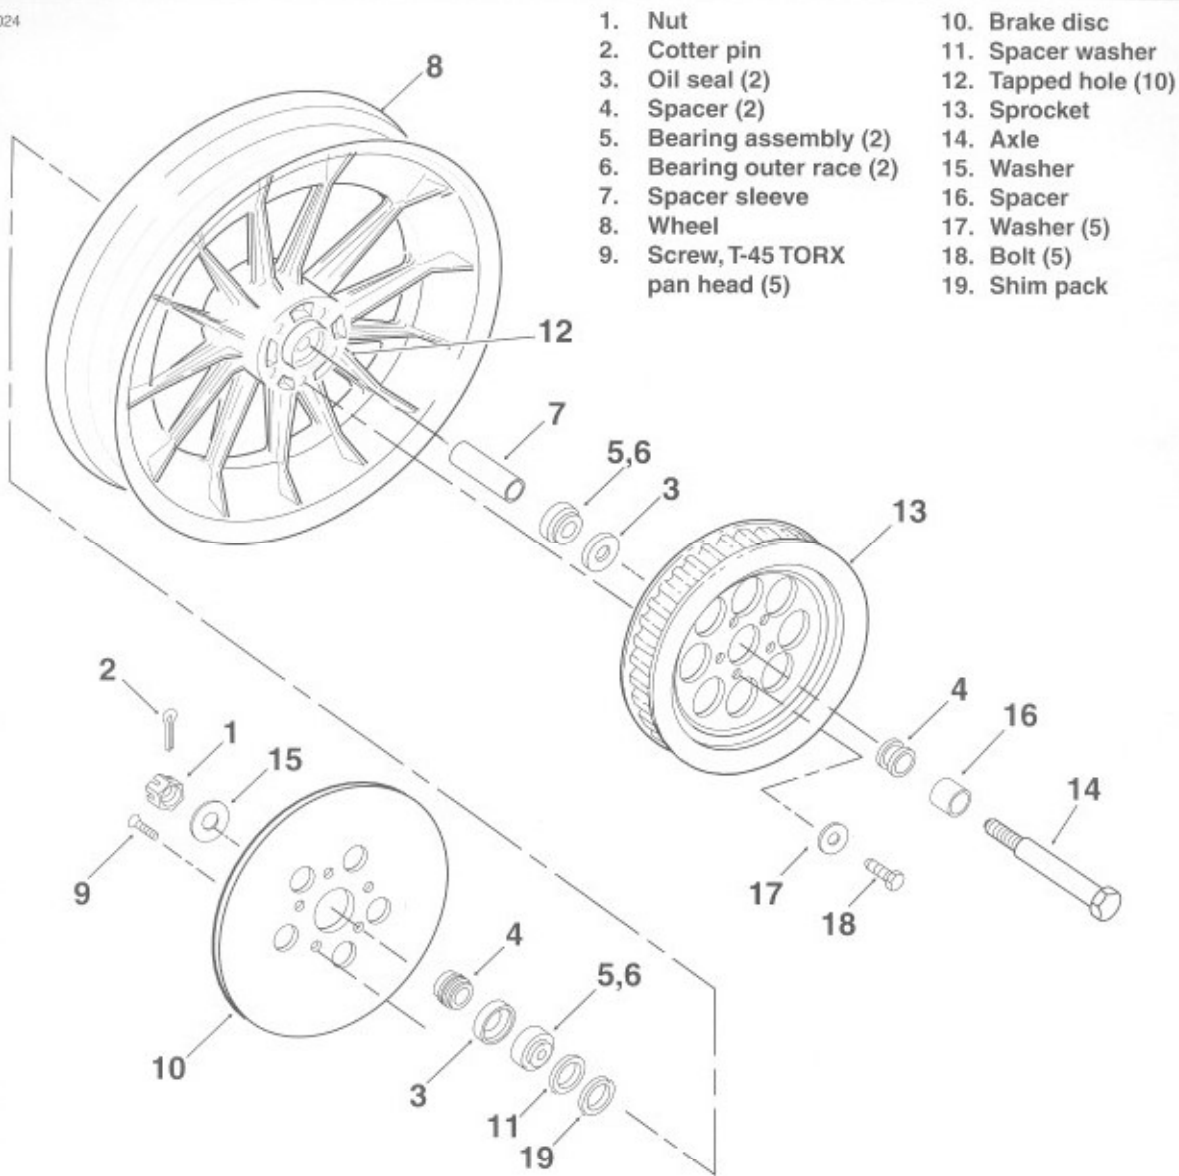
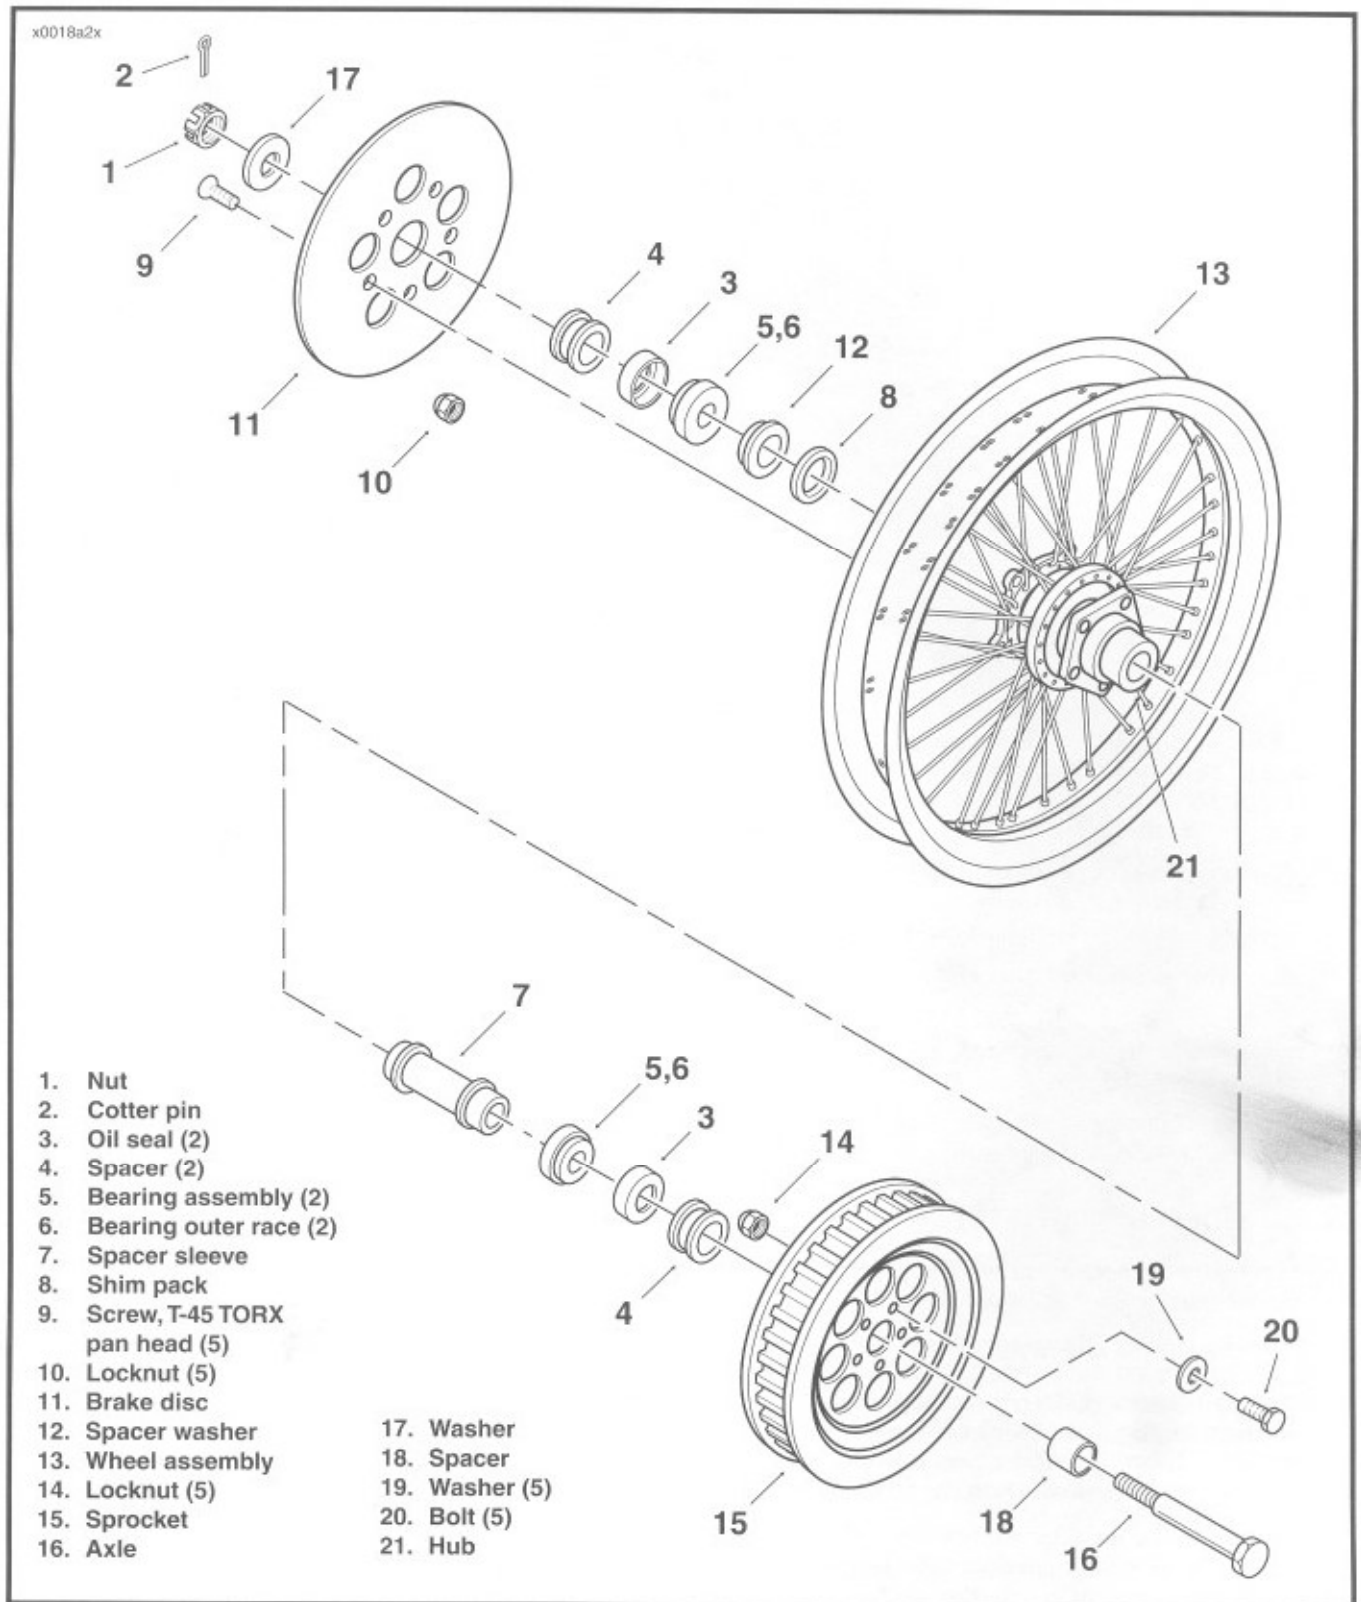

Figure 2-9. Cast Rear Wheel
Figure 2-10. Laced Rear Wheel
5. Remove spacer (16, Figure 2-9; 18, Figure 2-10) and rear wheel assembly.
### Cast Wheel (Figure 2-9)
### Laced Wheel (Figure 2-10)
2. Apply LOCTITE ANTI-SEIZE LUBRICANT to axle (14, Figure 2-9; 16, Figure 2-10). Insert axle through right side of rear fork, spacer (16, Figure 2-9; 18, Figure 2-10), wheel assembly, rear caliper bracket and left side of rear fork.
4. See Figure 2-9 and Figure 2-10. Mount a magnetic base dial indicator on the brake disc. Set the indicator contact point on the end of the axle. Move the wheel back as far as it will go. Holding the wheel in position, zero the dial indicator gauge. Move the wheel forward as far as it will go. Note the reading of the dial indicator. The lateral movement or end play must fall between 0.002 and 0.006 in. (0.05-0.15 mm). Repeat the procedure to verify the reading.
5. Remove the wheel and substitute thicker spacer shim(s) (19, Figure 2-9; 8, Figure 2-10) if the end play must be increased. Use thinner spacer shim(s) to reduce the end play. See the following table for the available spacer shim thicknesses.